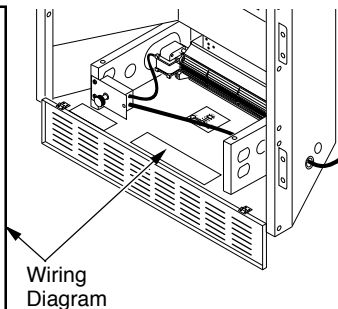

Figure 23 - Location of Wiring Diagram Decal 3" from Blower (actual heater may vary from illustration)
14. Peel off backing paper and stick supplied wiring diagram decal near center of firebox bottom (see Figure 23).